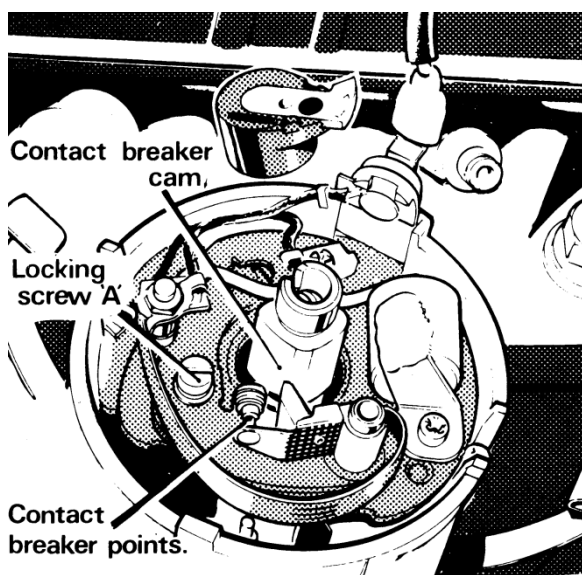
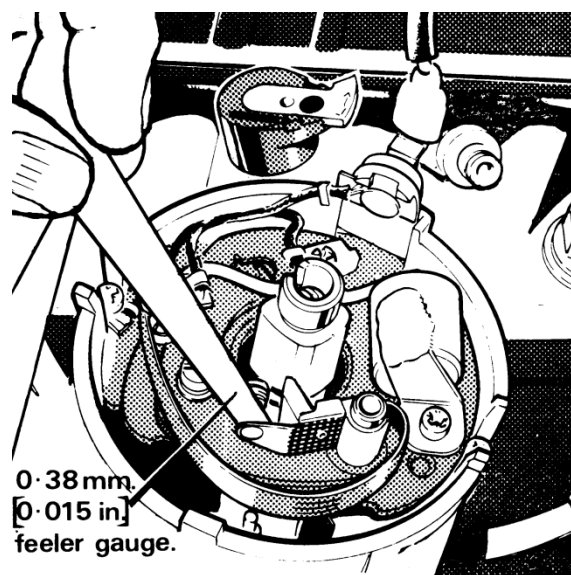

Figure 2 Contact breaker adjustment
Figure 3 Checking contact breaker gap
- Slacken the slotted head screw "A" in the contact plate (**Figure 2**) and adjust until the gap between the contacts is 0.38mm (0.015in) as shown in **Figure 3**.
- Remove the slotted head screw securing the breaker assembly to the distributor and the hexagon nut securing the primary and condenser leads. (**Figure 2**).